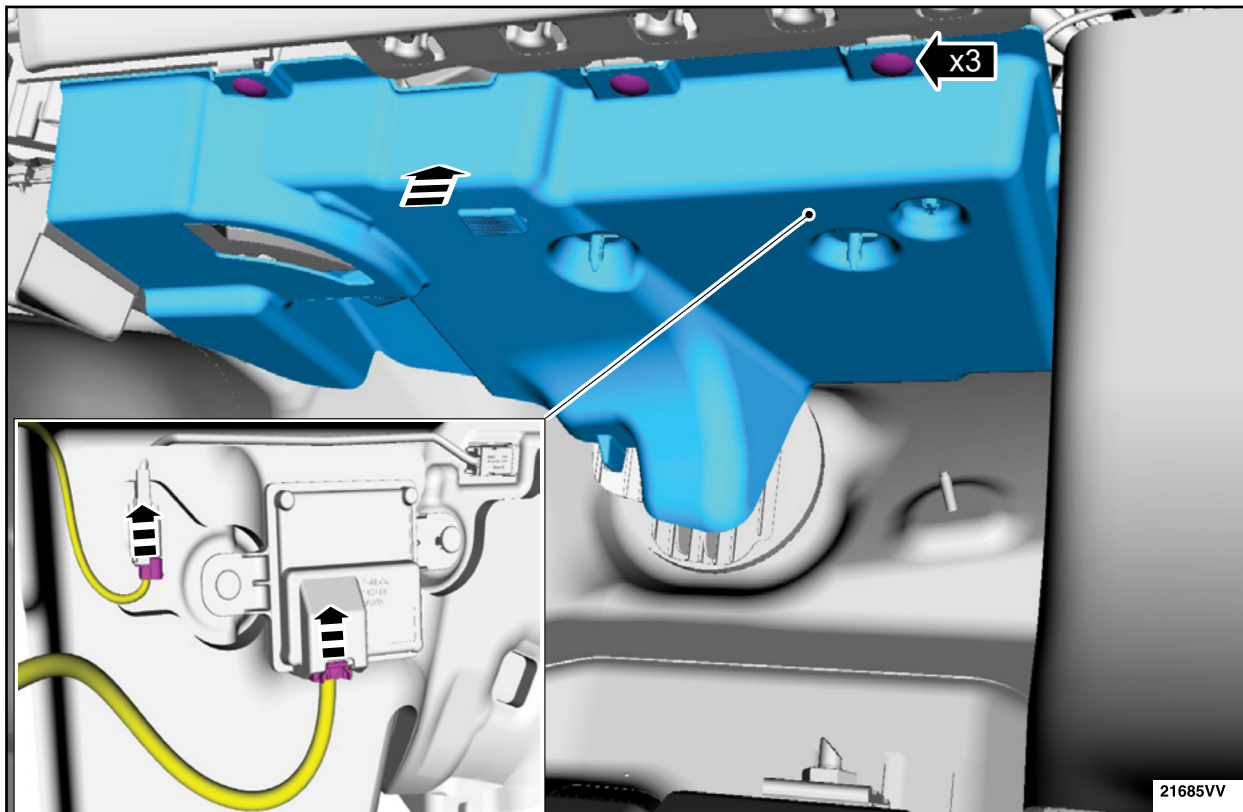

FIGURE 48
51. Connect the electrical connectors, install the RH insulation panel and the push pins. See Figure 48.